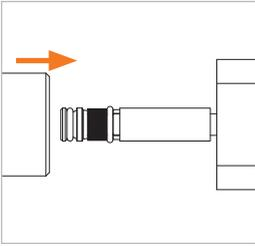

Figure 2
- ▶ Apply pilot pressure to the connector. The clamping jaws will close together and the connection to the test piece is possible (*Figure 2*).